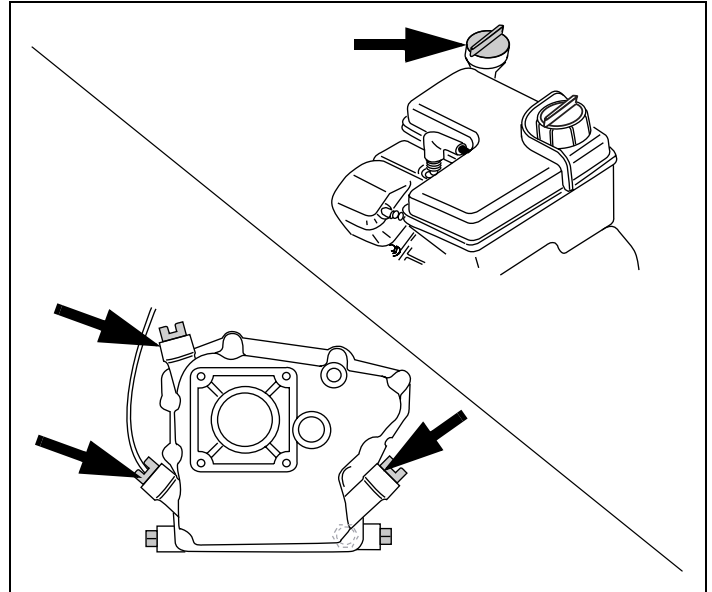

Figure 21. Possible Oil Fill Locations
10. Fill with recommended oil. See Table 1 on page 3 and "III. Oil and Fuel Specifications" instructions on page 4. See Figure 21. Afterward, continue reading instructions below.